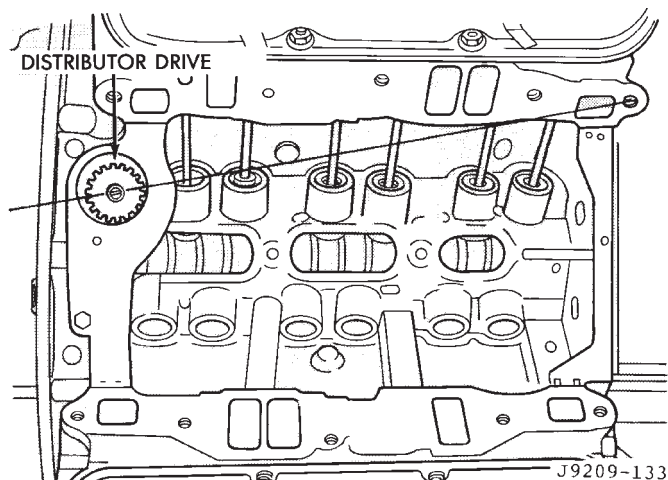

Fig. 23 Position of Oil Pump Shaft Slot
- (1) Rotate crankshaft until No. 1 cylinder is at top dead center on the firing stroke.
- (2) When in this position, the timing mark of vibration damper should be under "0" on the timing indicator.
- (3) Install the shaft so that after the gear spirals into place, it will index with the oil pump shaft. The slot on top of oil pump shaft should be aligned toward the left front intake manifold attaching bolt hole (Fig. 23).
- (4) Install distributor. Refer to Group 8D, Ignition Systems for the proper procedure.